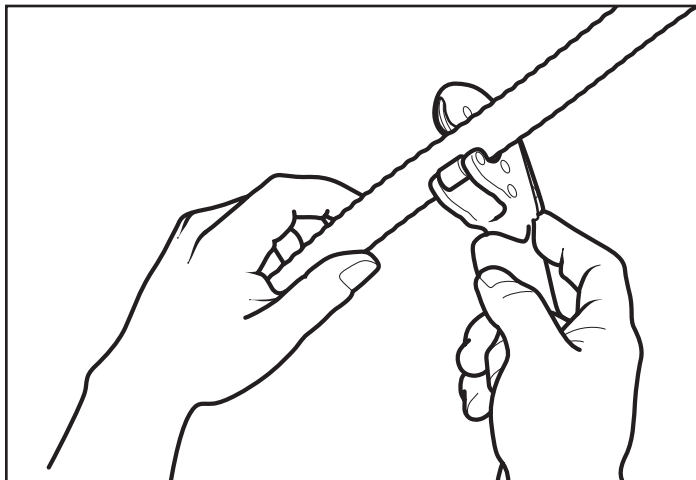

Figure: 4-1
1. **CUT-TO-LENGTH:** Determine proper length plus approx. three inches. Make a rough cut through plastic jacket and stainless tube using a tube cutter with a sharp wheel. Cut must be centered between two corrugations. Use full circular strokes in one direction and tighten roller pressure slightly (a quarter turn) after each revolution. **DO NOT OVERTIGHTEN ROLLER**, which may flatten tube. **Figure 4-1**